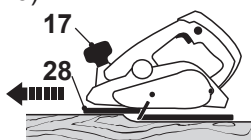

Fig. 8
4. Place the front plate (28) flat on the workpiece and push the product forward at an even speed (Fig. 8). It is recommended to try the planing depth on a piece of scrap material and verify it is as intended.